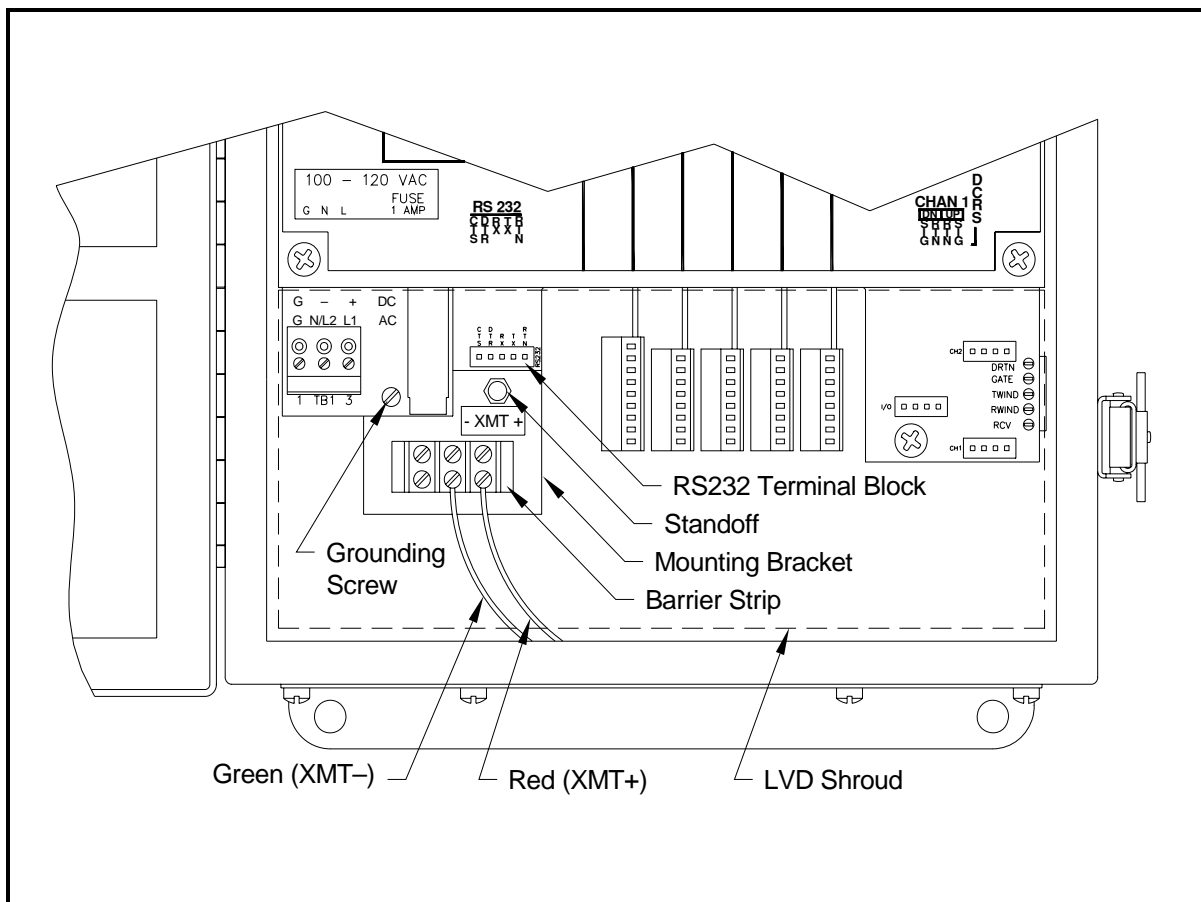

Figure 6-1: Interface Converter Mounting
A special bracket containing the serial interface converter and a three-terminal barrier strip is mounted inside the Model GF868, just below the RS232 terminal block (see Figure 6-1 below). The standard RS232 terminal block is wired to the input of the serial interface converter, and the RS-485 output of the serial interface converter is wired to the barrier strip.
Standard factory wiring of the RS485 serial interface is configured for point-to-point wiring. That is, a single Model GF868 may be wired directly to a single personal computer. To connect the RS485 serial interface, refer to Figure 6-1 on page 6-5 and complete the following steps:
3. Remove the serial interface converter *mounting bracket* by removing the standoff located just below the RS232 terminal block and the grounding screw just to its left (see Figure 6-1 on page 6-5).